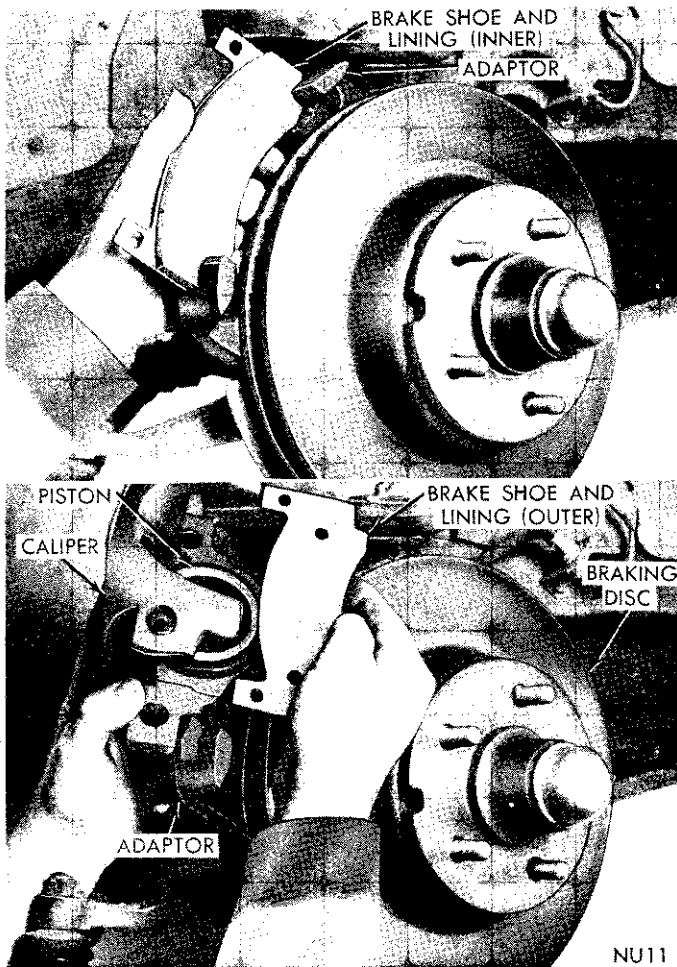

Fig. 8—Removing or Installing Brakes Shoes and Lining
(5) Slide outboard shoe and lining assembly out of caliper. Slide inboard shoe and lining assembly out of adaptor (Fig. 8).
(3) Slide new shoe and lining assemblies into position in adaptor and caliper (Fig. 8), being sure that metal portion of shoe is fully in recess of caliper and adaptor.